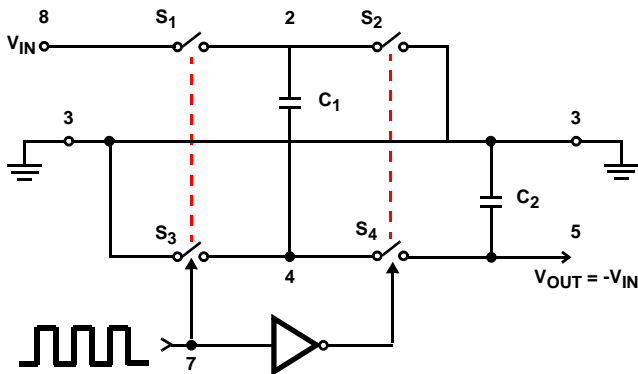
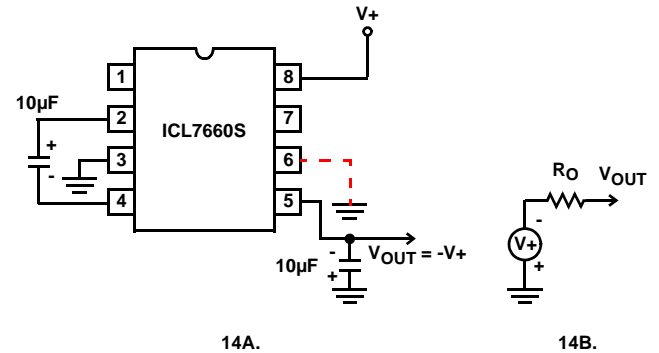

FIGURE 13. IDEALIZED NEGATIVE VOLTAGE CONVERTER
FIGURE 14. SIMPLE NEGATIVE CONVERTER AND ITS OUTPUT EQUIVALENT
In the ICL7660S, the 4 switches of Figure 13 are MOS power switches; S_1 is a P-Channel devices and S_2 , S_3 and S_4 are N-Channel devices. The main difficulty with this
where V_1 and V_2 are the voltages on C_1 during the pump and transfer cycles. If the impedances of C_1 and C_2 are relatively high at the pump frequency (refer to Figure 13) compared to the value of R_L , there will be substantial difference in the voltages V_1 and V_2 . Therefore it is not only desirable to make C_2 as large as possible to eliminate output voltage ripple, but also to employ a correspondingly large value for C_1 in order to achieve maximum efficiency of operation.
The majority of applications will undoubtedly utilize the ICL7660S for generation of negative supply voltages. Figure 14 shows typical connections to provide a negative supply where a positive supply of +1.5V to +12V is available. Keep in mind that pin 6 (LV) is tied to the supply negative (GND) for supply voltage below 3.5V.
The output characteristics of the circuit in Figure 14 can be approximated by an ideal voltage source in series with a resistance as shown in Figure 14B. The voltage source has a value of $-(V^+)$. The output impedance (R_0) is a function of the ON resistance of the internal MOS switches (shown in Figure 13), the switching frequency, the value of C_1 and C_2 , and the ESR (equivalent series resistance) of C_1 and C_2 . A good first order approximation for R_0 is:
Figure 21 combines the functions shown in Figure 14 and Figure 20 to provide negative voltage conversion and positive voltage doubling simultaneously. This approach would be, for example, suitable for generating +9V and -5V from an existing +5V supply. In this instance capacitors C_1 and C_3 perform the pump and reservoir functions respectively for the generation of the negative voltage, while capacitors C_2 and C_4 are pump and reservoir respectively for the doubled positive voltage. There is a penalty in this configuration which combines both functions, however, in that the source impedances of the generated supplies will be somewhat higher due to the finite impedance of the common charge pump driver at pin 2 of the device.